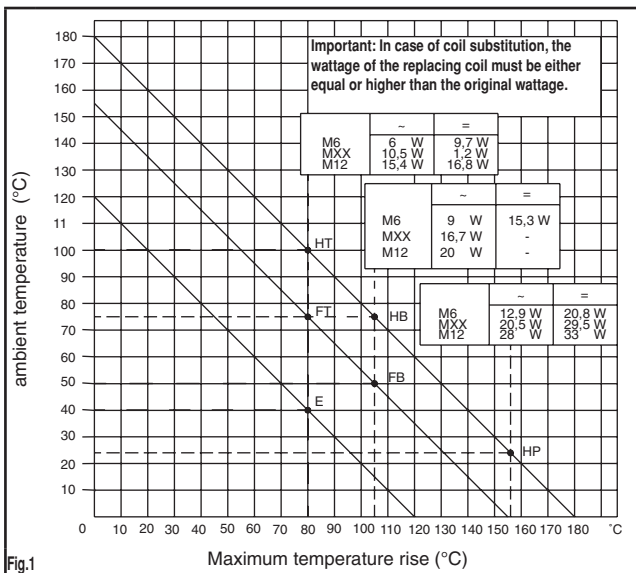

Fig.1
- In case of higher ambient temperatures, the graph (fig 1) shows an example of a coil identified FT which can be replaced by a coil identified HT. For more details, please contact us.